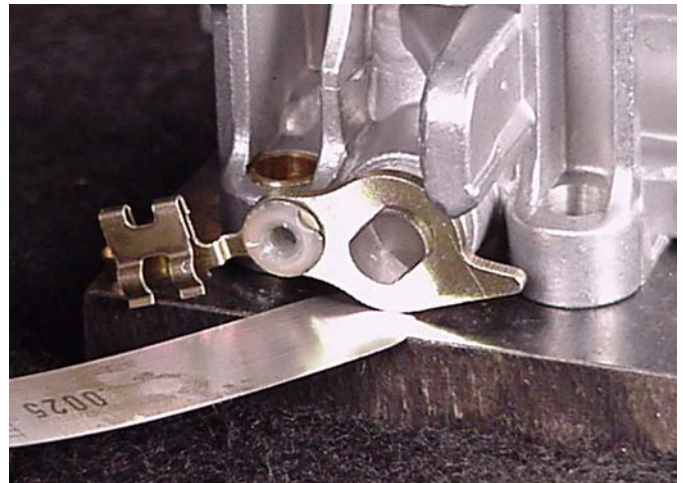

Fig. 127
1. Lay carburetor on a flat surface and check throttle and choke shaft clearance as shown, Fig. 127.